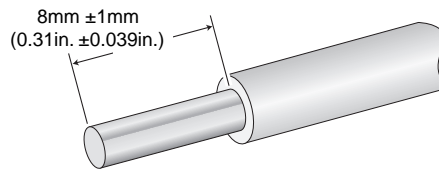

Figure 9. Stripped Wire
- With a 14-gauge wire-stripping tool, strip the three wires in the tray cable coming from the DC input power source to 8 millimeters \pm 1 millimeters (0.31 inches \pm 0.039 inches), as shown in Figure 9.